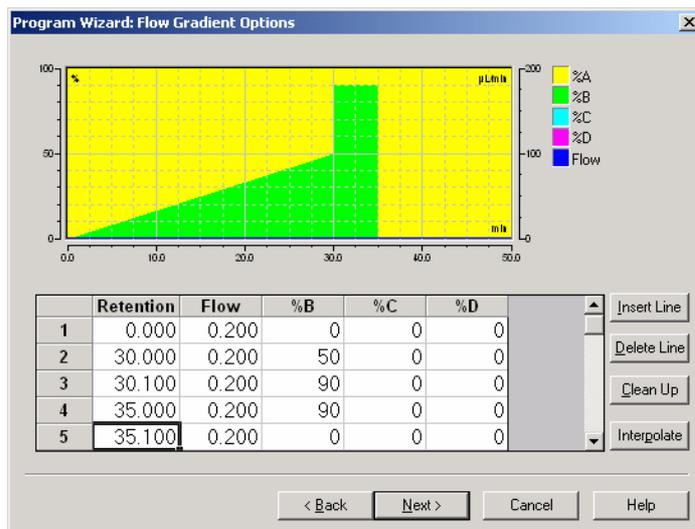

FIGURE 4-10 The Flow Gradient Options Box
f) Define the gradient in the *Flow Gradient Options* box FIGURE 4-10).